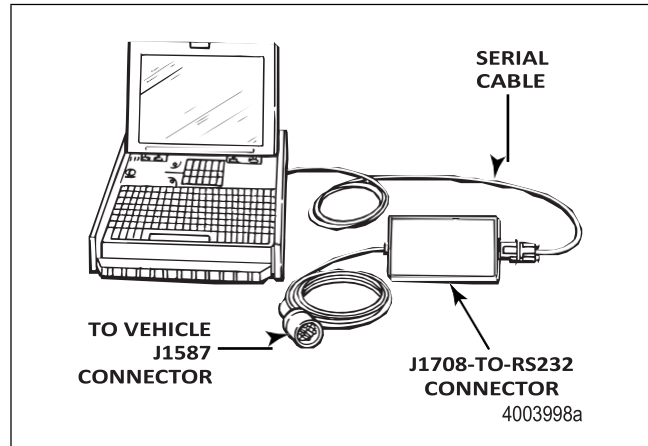

Figure 3.1
- Attach the diagnostic cable (Deutsch) to the vehicle. Figure 3.1.